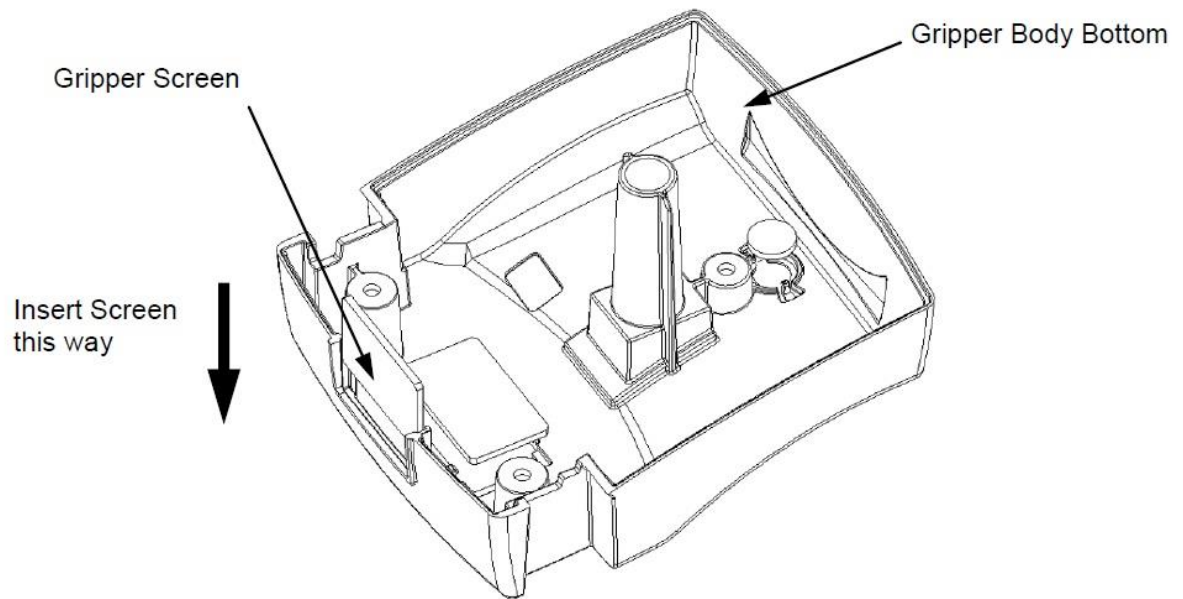

Figure H-7: Inserting the Gripper Screen
4. Slide a Gripper Screen into the groove at the front of the Gripper Body Bottom (Figure H-7). Remove any protective covers from the screen before installing and ensure the screen is clean.